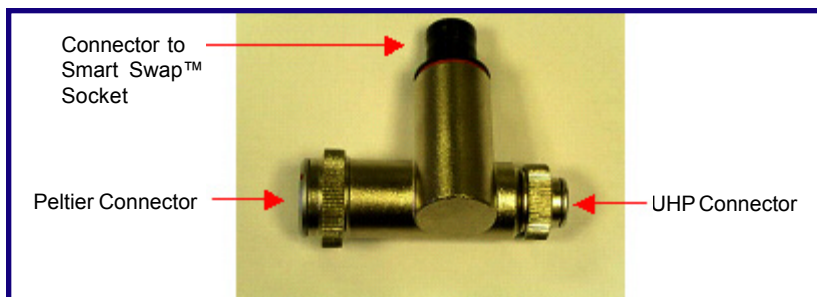

Figure 7.3
4. Connect the Peltier plate and Upper Heated Plate cables to the left and right sockets on the Smart Swap™ Upper Heated Plate adaptor respectively (see Figure 7.3 to the right).